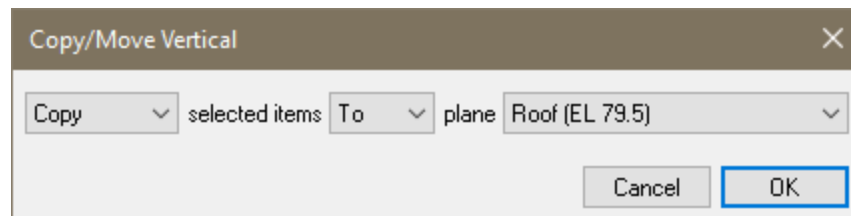

Figure 5-2
- Go to *Modify* → *Copy/Move* and click on the *Copy/Move Vertical*  icon. This will open up the *Copy - Move* window as shown in **FIGURE 5-2**.